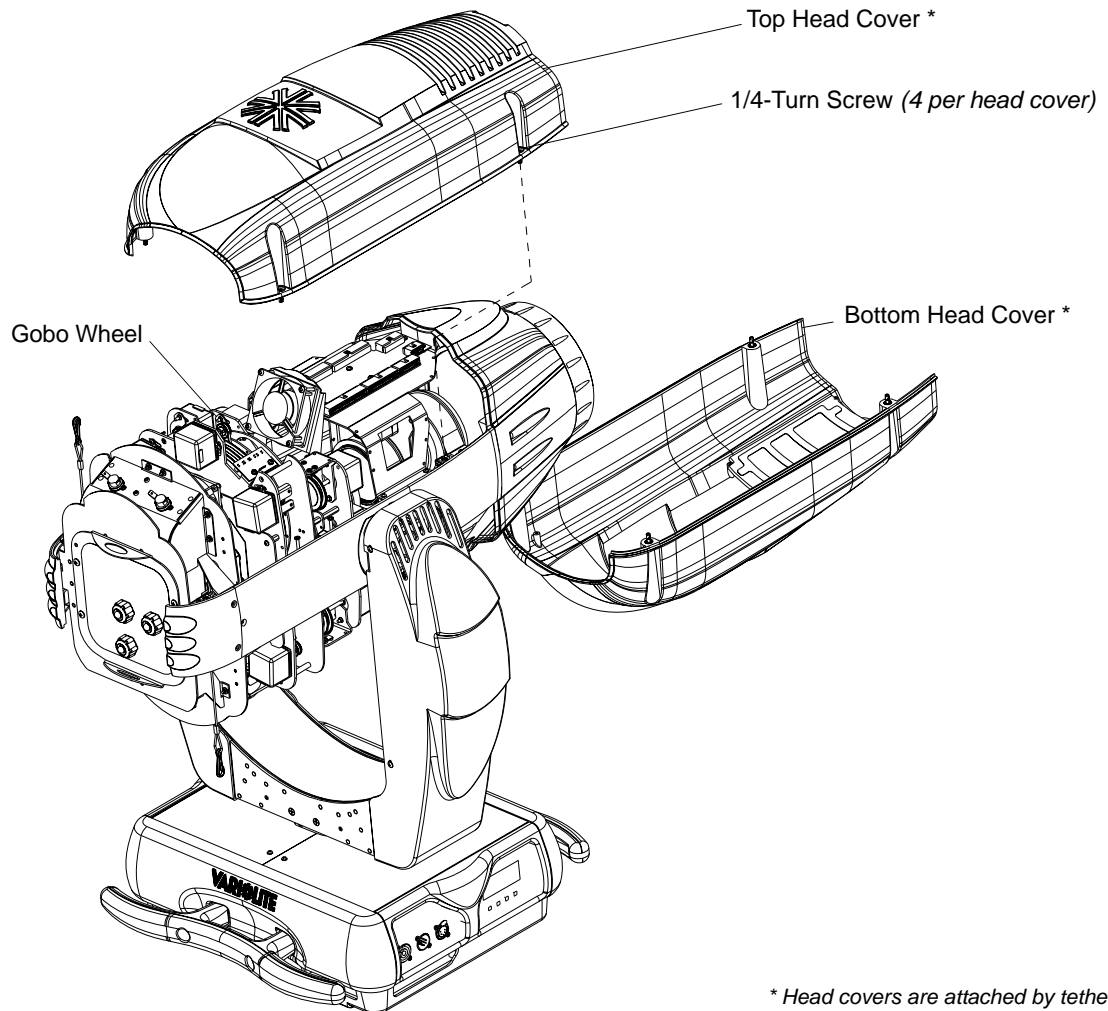

Figure A-3: Head Covers - Removal
- Step 2. As illustrated in Figure A-3, remove top and/or bottom head cover by loosening four 1/4-turn screws to access the three gobos wheels.